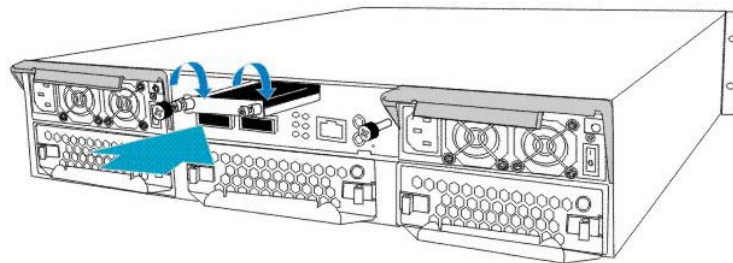

Figure 2-9: Installing the BBU
Step 3. Secure the BBU to the subsystem by fastening the retention screws on the BBU. (See **Figure 2-9**)